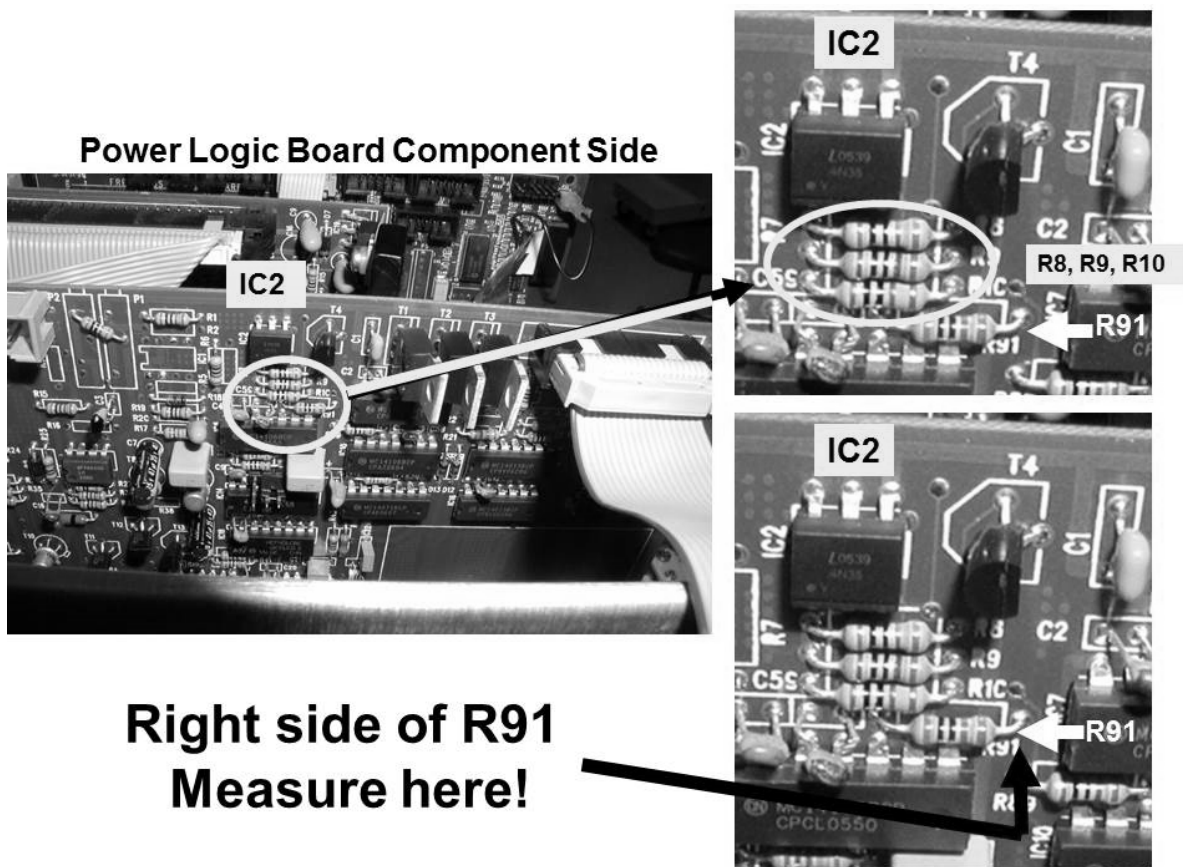

Figure 121 – Resistor (R91)
- b) Measure again at **R91**, at the location shown in Figure 121 (previous page). TWO (2) possible scenarios:
- b) Measure again at **R91**, per Figure 121 (previous page). TWO (2) possible scenarios: